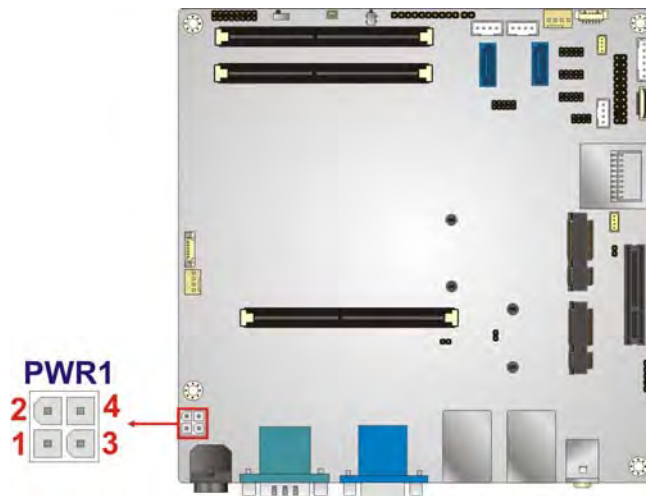

Figure 3-7: CPU Power Connector Location
- CN Location: See **Figure 3-7**